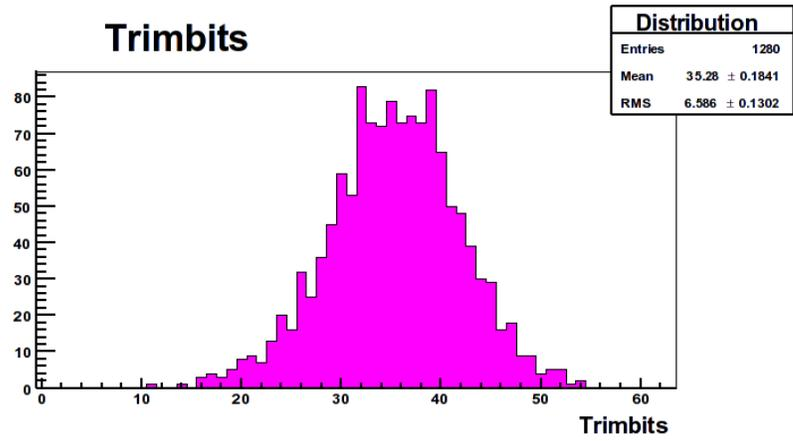

Figure 2.8: The distribution of the trimbits.
5. Select the directory where the noise trim files should be written and the filename, to which will be attached the extension given by the module serial number (.snxxx). If you want the trimfiles to be loaded automatically when the global settings are selected, select the default directory specified in the config file (or in the "trimbits/beamline" directory for the older software versions). Click on *Trim* to start the noise trimming process. After the trimming has finished look at the plot and the distribution of the trim bits. The distribution should be around 32 ± 5 and should look gaussian. An example distribution is shown in figure 2.8 and an example plot in 2.9. If the distribution is too much off center change the counts/pixel, if it is